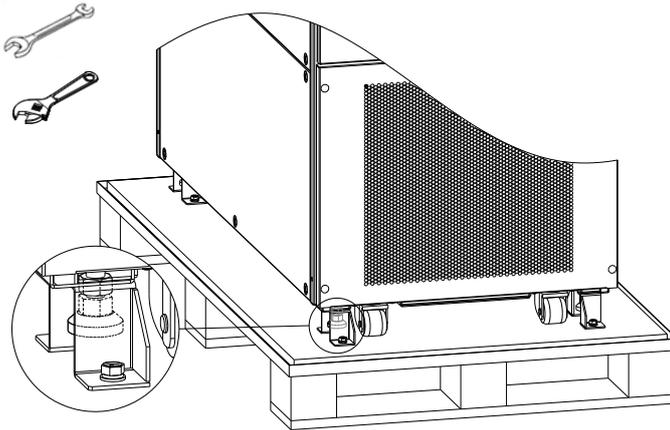

Figure 2-7 Remove foot-press plate
4) Use a #19 wrench to screw the foot nut, lower the foot, and lift the cabinet. Remove the M8 bolt with the movable wrench and remove the foot-press plate, as shown in Figure 2-7.